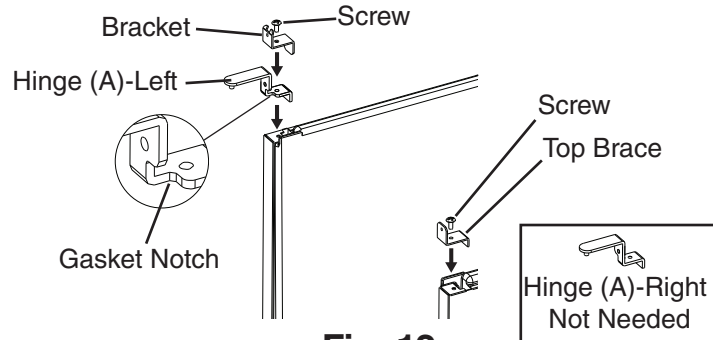

Fig. 12
- Remove hinge (A)-right and the bracket from the right side of the unit. Set aside hinge (A)-right; it is not needed. Remove the top brace from the left side. Fasten hinge (A)-left and the bracket to the left side and the top brace to the right side. See Fig. 12.
- Note: When on the proper side, the gasket notch for hinge (A) is to the inside.